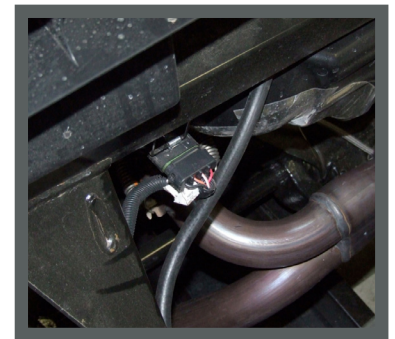

Figure 1
1. Tilt the bed to the dump position and disconnect the Tail Light and diff lock Wire Harness connectors (See fig. 1) and Zip Ties holding the harness to the frame. Do not cut the lower zip ties as they are reusable.
3. Use a 13MM wrench to remove the (4) Bed Pivot Clamp Nuts. Remove the aluminum Dog Bone Plates and remove the Pivot Clamp Halves from each side.
5. Use a 10MM wrench to remove the (4) Silencer Cover Bolts and remove the Silencer Cover.